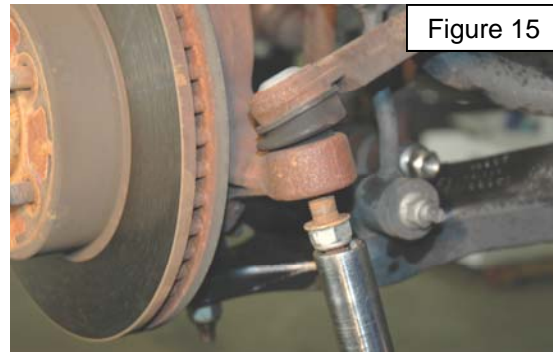

Figure 15
19. Install the tie-rod and nut to spindle and torque to factory specs. **See Figure 15.**